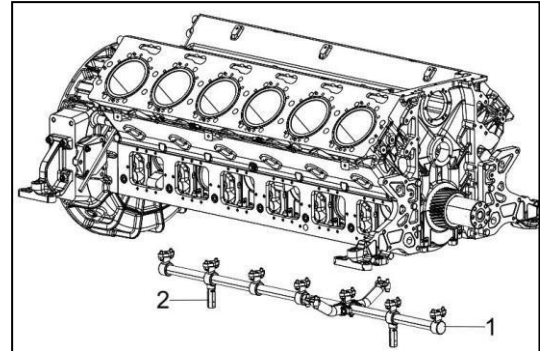

Figure 144
1. Assemble the oil pressure limiting valve if removed (Figure 144, 2).
2. Install the oil pipeline group (Figure 144, 1).